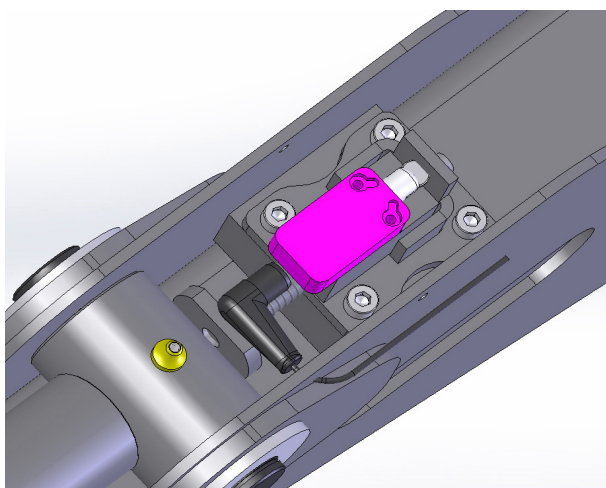

Fig. 5.13
- **Limit switch support stabilizer on the ground (Fig. 5.13)**